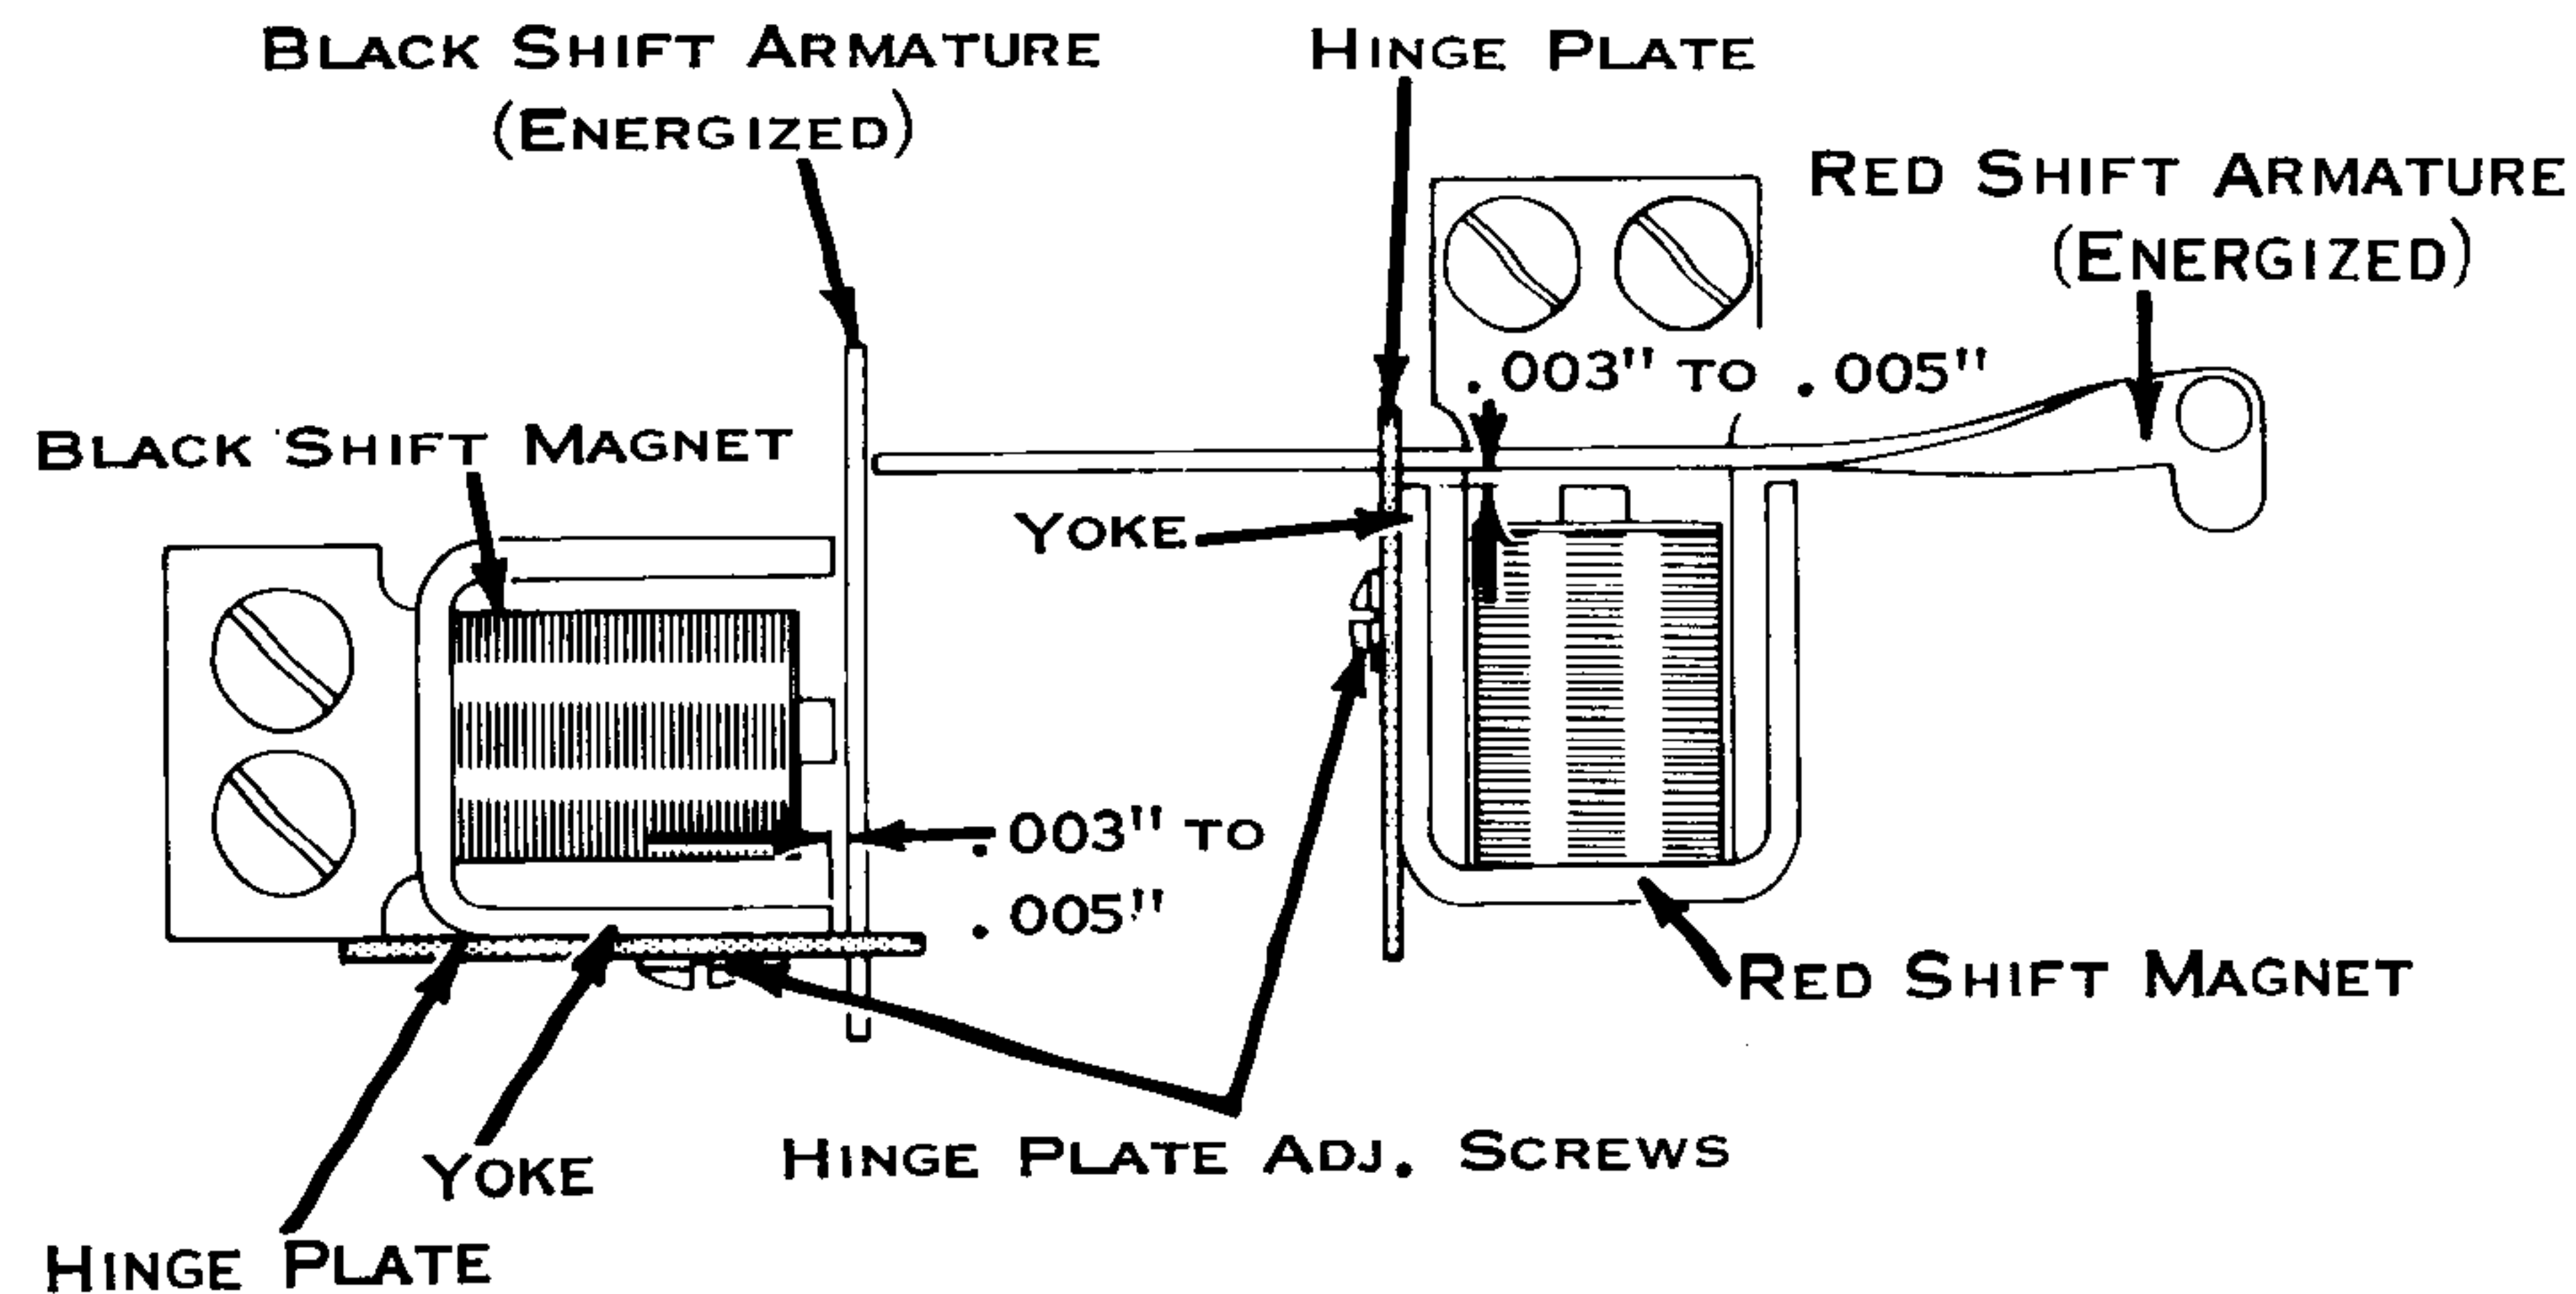

Figure 210. Hinge Plates
- a. With the armatures energized, position the hinge plates so that the armatures clear the magnet yokes by .003" to .005" (Fig. 210).